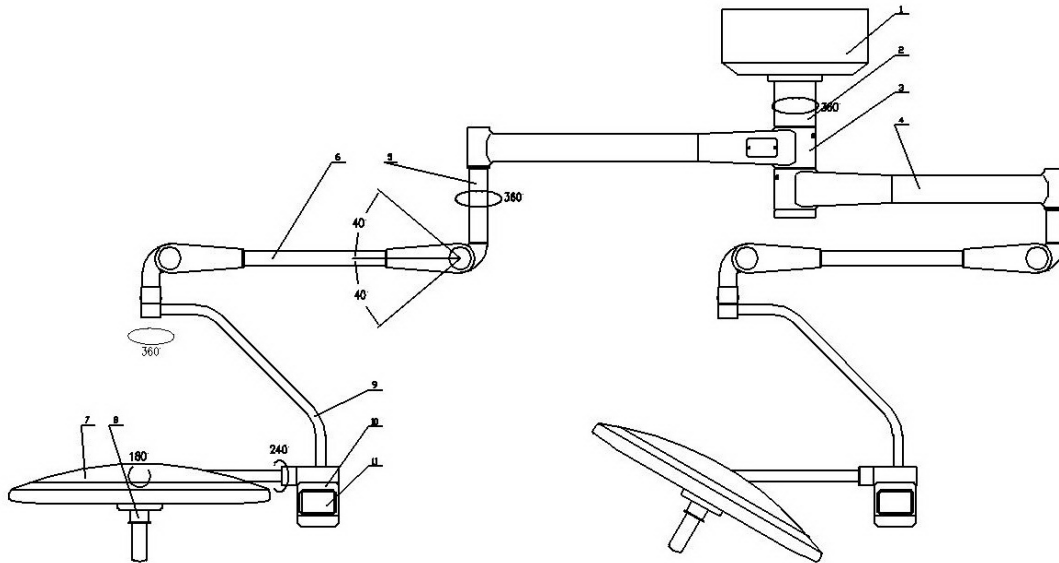
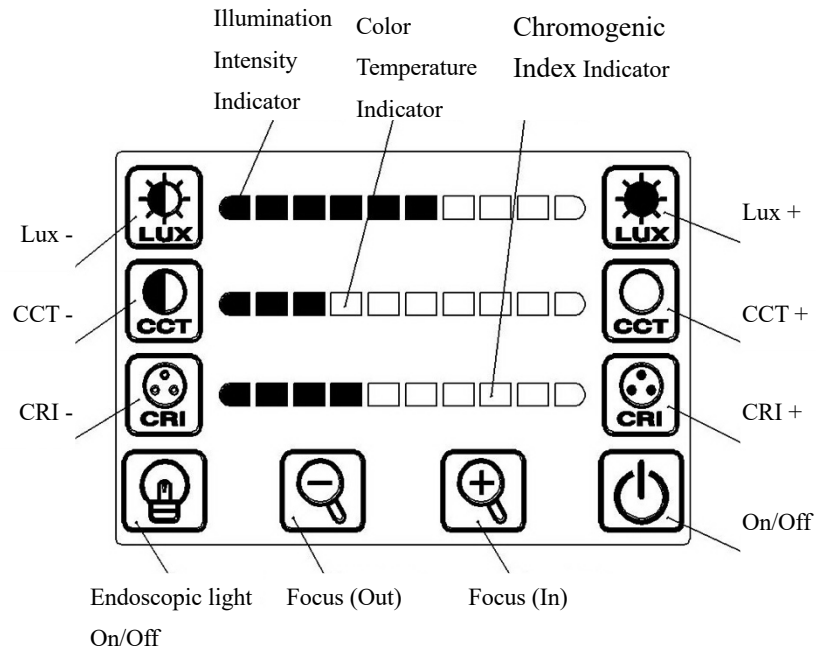

Fig. 1 Diagram for Pendant Shadowless Lamp
Fig. 4 LCD Display
D Serial Products employ six sets of advanced universal joint system, which main structure consists of Lamp Body, Balance Arm, Horizontal Arm, Holder, Pendant Arm, Connecting Arm and Switch Box. Product structures of specific model are shown as Fig. 1 – 3. Specifications of movement range refer to Table 2. See Fig. 4 for control panel.
- a) Pendant and wall-mounted shadowless lamp: turn on power switch on shadowless lamp (mains plug is detachable, with control switch and fuse). LCD display is lighten, showing each icons of function button (Refer to Fig. 4).